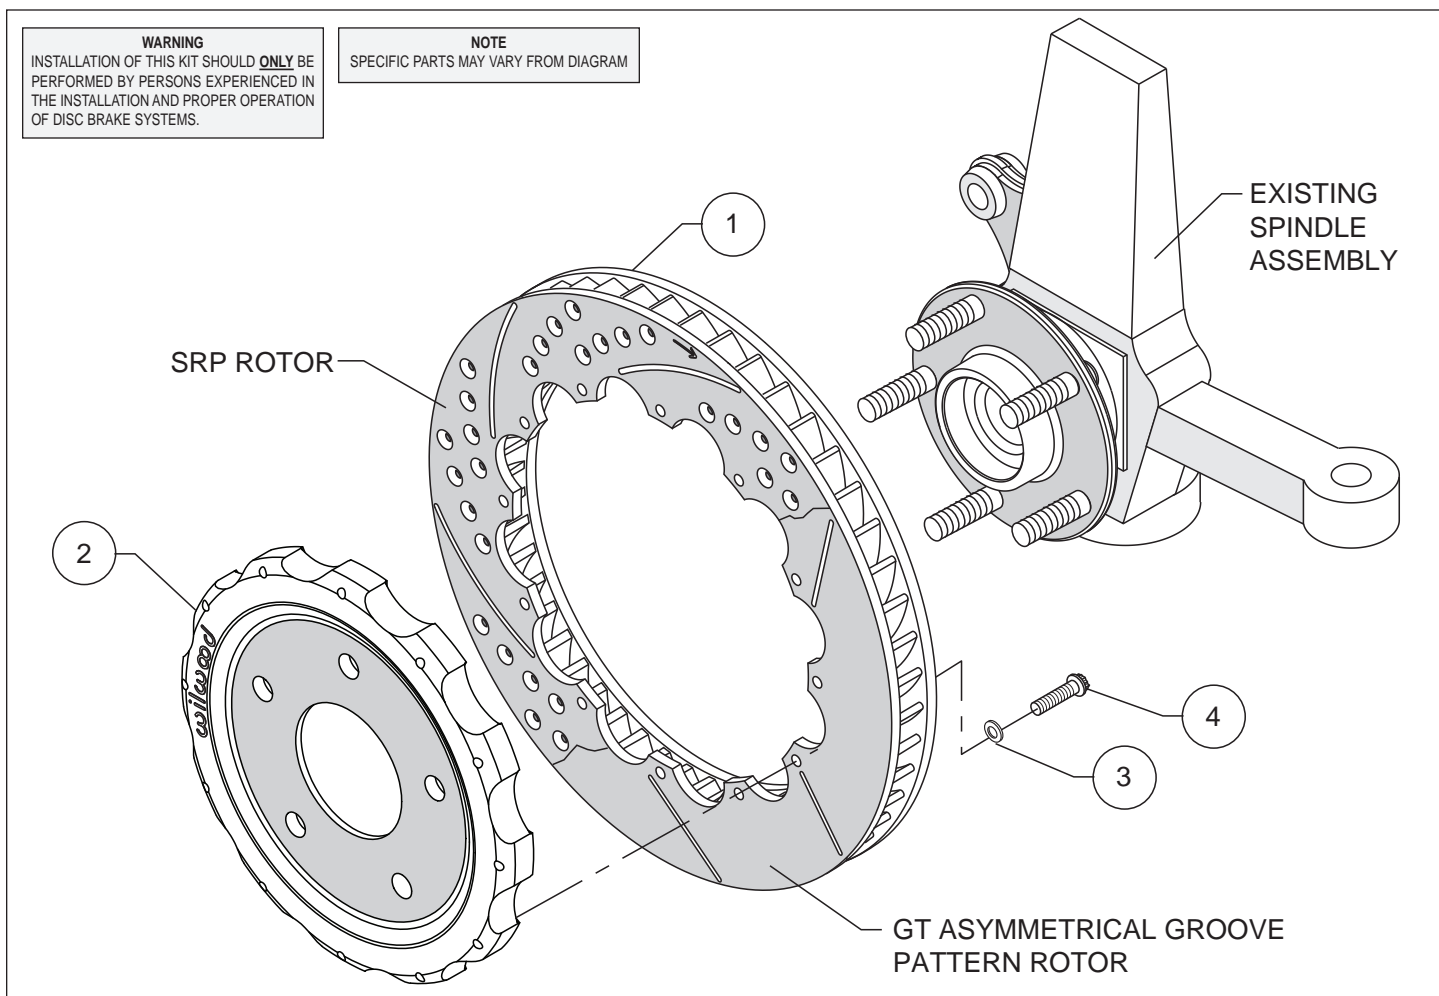
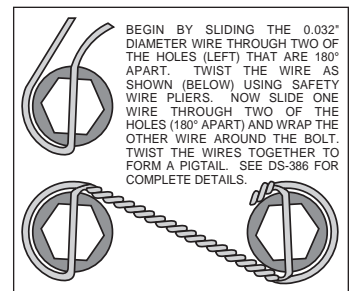

Figure 1. Typical Installation Configuration
Figure 2. Safety Wire Diagram
- Orient the rotor (1) and the hat (2) as shown in Figure 1 and Photo 1. Attach rotor to hat using bolts (4) and washers (3). Using an alternating sequence, apply red *Loctite*[®] 271 to the threads, and torque to 155 **in-lbs**. For an added measure of security, the bolts may be safety wired using standard 0.032 inch diameter stainless steel safety wire as shown in Figure 2. Please refer to Wilwood's data sheet DS-386 (available at www.wilwood.com/Pdf/DataSheets/ds386.pdf) for complete safety wire installation instructions.